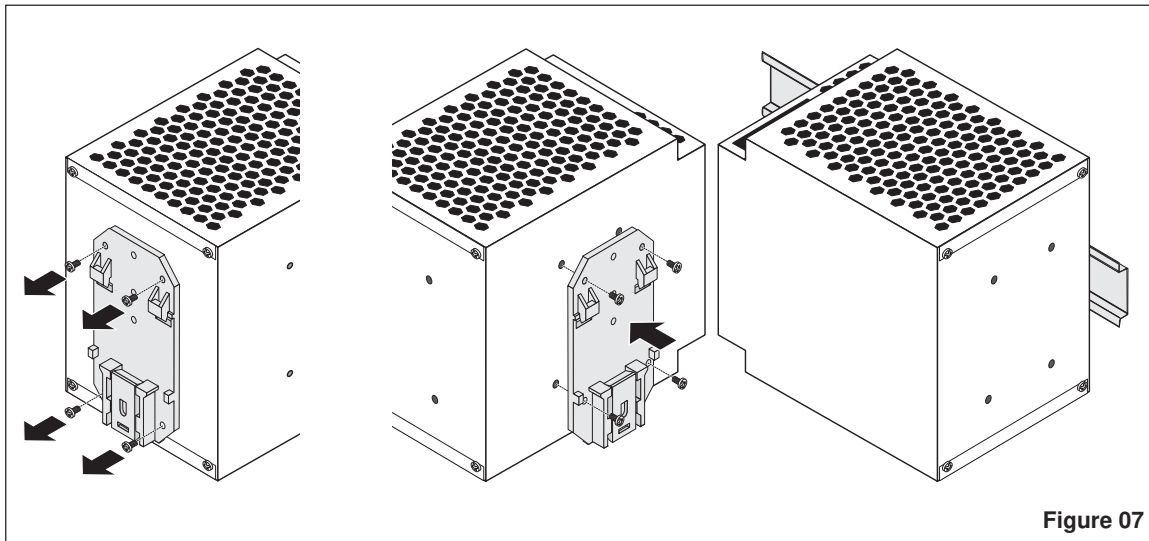

Figure 07
A flat mounting position can be achieved by mounting the module onto the DIN rail at a 90° angle. To do this, mount the DIN rail adapter (UTA 107) ⑦ as shown in Figure 07. No additional assembly material is required. Mounting screws: Torx T10 (torque 0.8 - 0.9 Nm).